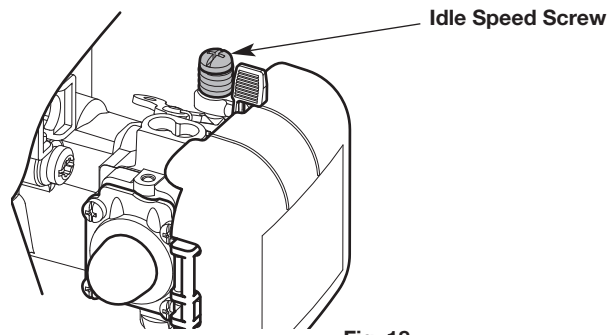

Fig. 18
- If the engine stops, increase the idle speed. Use a small Phillips screwdriver to turn the idle speed screw clockwise, 1/8 of a turn at a time, until the engine idles smoothly (Fig. 18).